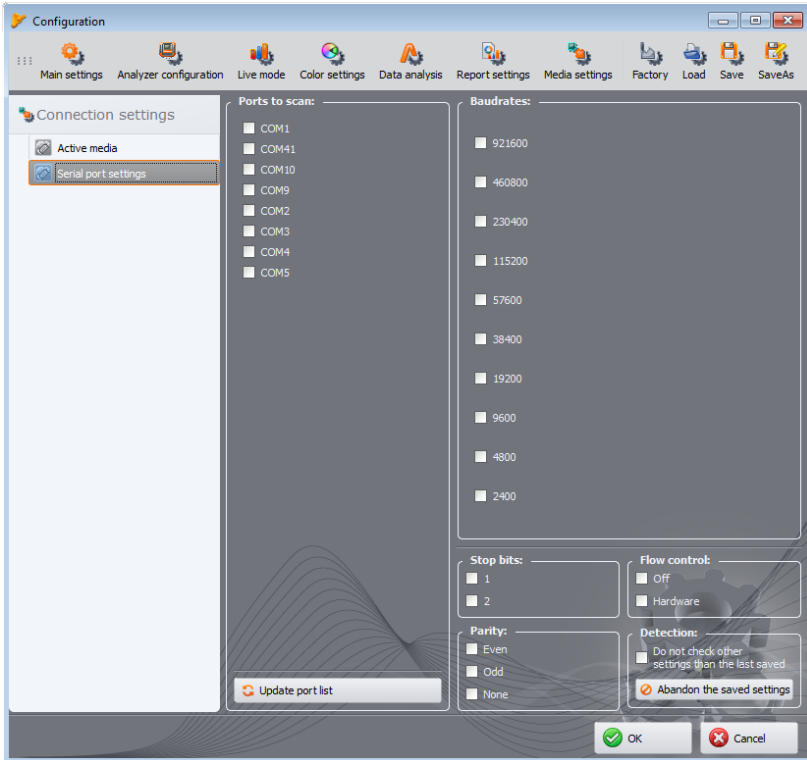

Fig. 88. Program configuration – Serial port settings.
- **PQM-701Zr** **SERIAL PORT SETTINGS** (Fig. 88) – allows user to select settings for PC serial port that will be applied for connecting with PQM-701Zr analyzer. The following options are available: